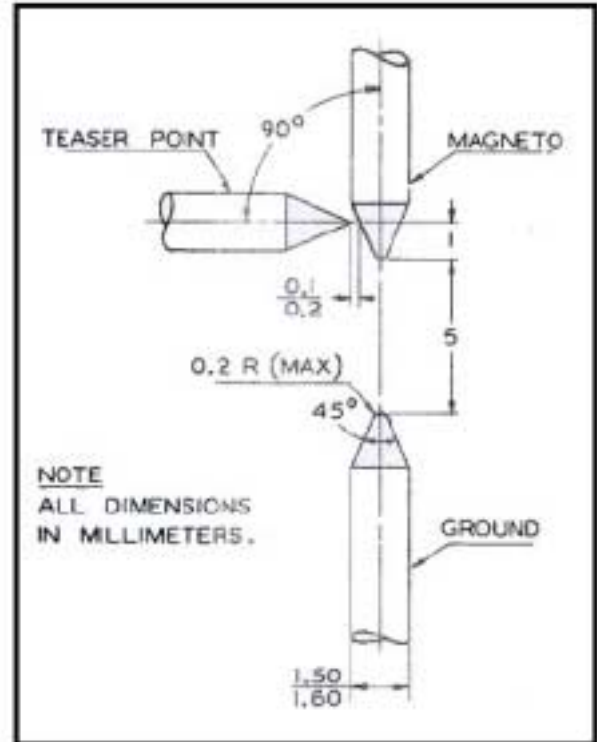

Figure 26. Spark Gap Setting
(1) With the adapter (LA Models) and distributor late removed from the magneto, connect the high tension terminal on the coil with a suitable test lead to one of the test gaps set to a standard 5 mm opening as shown in figure 26. Run the magneto through a speed range to a maximum speed of 2000 R.P.M. for AM magnetos and 5000 R.P.M. for the LA models. The breaker assembly should operate without excessive arcing between the contact points. Excessive arcing may indicate a faulty condenser or loose connection. Oil, dirt or other foreign mater on the contact surfaces will also cause arcing between the points.